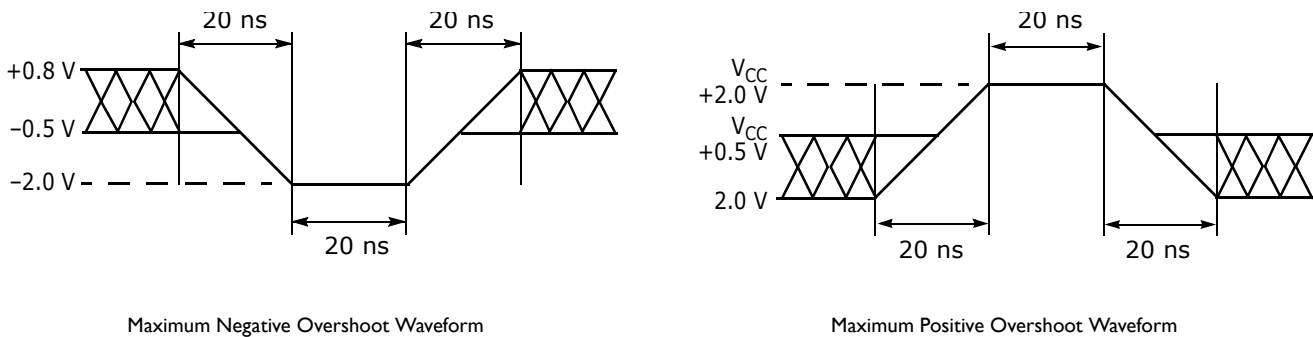

Figure 8. Maximum Overshoot Waveforms
1. Minimum DC voltage on input or I/O pins is -0.5 V . During voltage transitions, input or I/O pins may overshoot V_{SS} to -2.0 V for periods of up to 20 ns. Maximum DC voltage on input or I/O pins is $V_{CC} + 0.5\text{ V}$. During voltage transitions, input or I/O pins may overshoot to $V_{CC} + 2.0\text{ V}$ for periods up to 20 ns. See Figure 8.
2. Minimum DC input voltage on pins A9, OE#, RESET#, and WP#/ACC is -0.5 V . During voltage transitions, A9, OE#, WP#/ACC, and RESET# may overshoot V_{SS} to -2.0 V for periods of up to 20 ns. See Figure 8. Maximum DC input voltage on pin A9, OE#, and RESET# is $+12.5\text{ V}$ which may overshoot to $+14.0\text{ V}$ for periods up to 20 ns. Maximum DC input voltage on WP#/ACC is $+9.5\text{ V}$ which may overshoot to $+12.0\text{ V}$ for periods up to 20 ns.